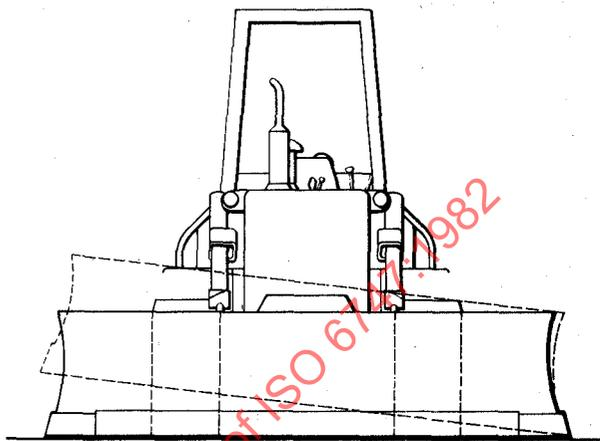

Figure 10 — Tilt movement
- tilt movement (see figure 10) : The blade position may be changed so that the cutting edge is at an angle to the "Z" plane.